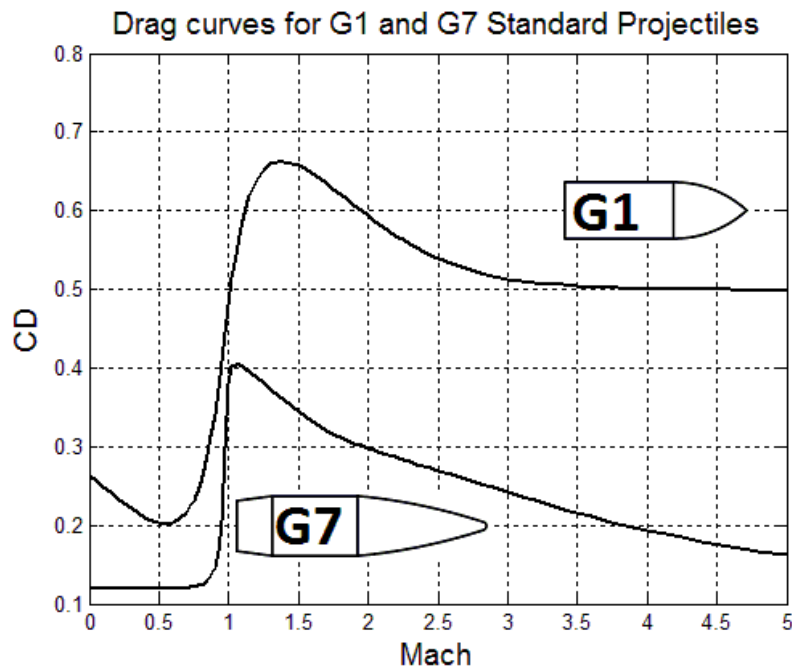

Figure 1. G1 and G7 standard projectile models and their associated drag curves.
Some of you may have read about G1 and G7 standard projectiles and standard drag models. Figure 1 below shows these two standard projectile shapes and the associated drag curves that go with them. Now, a lot has been made of these so called *drag curves*, and how well they represent the *drag curves* of modern bullets. But what IS a *drag curve*? What physical significance does it have? Why does it appear the drag goes down as velocity (Mach number) goes up? Shouldn't drag increase with speed? Certainly feels like it when I put my head out the car window and hit the gas...
Here's what's going on in Figure 1. The Coefficient of Drag (CD) is plotted against the Mach number. The Mach number is how fast you're going in relation to the speed of sound. For example, Mach 2 is 2 times the speed of sound, Mach 3 is 3 times the speed of sound, etc.
And now we're finally getting to the point. As we stated in the beginning, *the coefficient of drag (CD) is a number that scales the basic drag calculation for the shape of the projectile.* A bullet like a wadcutter which is purely blunt in front and back will have a drag coefficient close to 1 because the frontal area is taking the full brunt of the dynamic pressure. It's experiencing all the drag possible. But if you give the projectile an ogival nose and maybe a boat-tail, *it will experience less drag at the same speed.* The drag coefficient is the number that describes how much. Going back to Figure 1, you can see that at Mach 3 (3348 fps), the G1 projectile has a drag coefficient of 0.51, while the G7 projectile has a drag coefficient of only 0.24. In the previous section we learned that at Mach 3, a .308 caliber bullet has 6.9 pounds of drag applied to it at this speed (dynamic pressure times bullet frontal area). However, this is the maximum potential drag that could be experienced by something; the wadcutter shape. In reality, a modern projectile shaped similar to the G7 standard will only experience about 24% of that 6.9 pounds due to its shape (CD is 0.24).
Hopefully this background has shown you how the drag coefficient plots like those in Figure 1 actually relate to something physical. The following summary will highlight the important insights you should move forward with:
If you've been paying attention, you'll recall that in Figure 1 the G1 drag curve was much higher than the G7, and here they're shown as nearly equal in supersonic speeds. This is because the drag curves are scaled to the projectile drag measurements via a form factor. This is explained in great detail in Chapter 2 of *Applied Ballistics for Long Range Shooting* [REF 1].